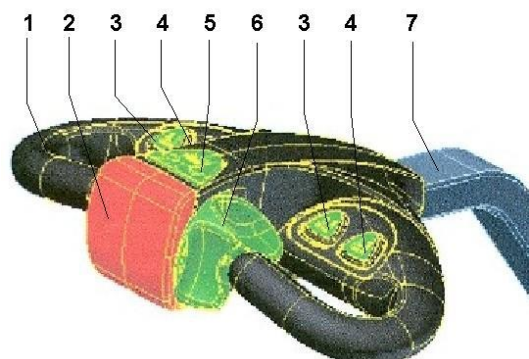

Fig. 2
- check the jam safety on the steering handle by pressing the safety switch (2, fig. 2), the V-move L should not start in that case.
Steering handle (Tiller head) (fig. 2)